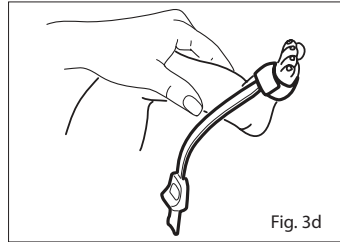

Fig. 3d
5. Refer to Fig. 3d. Verify correct positioning and reposition if necessary.